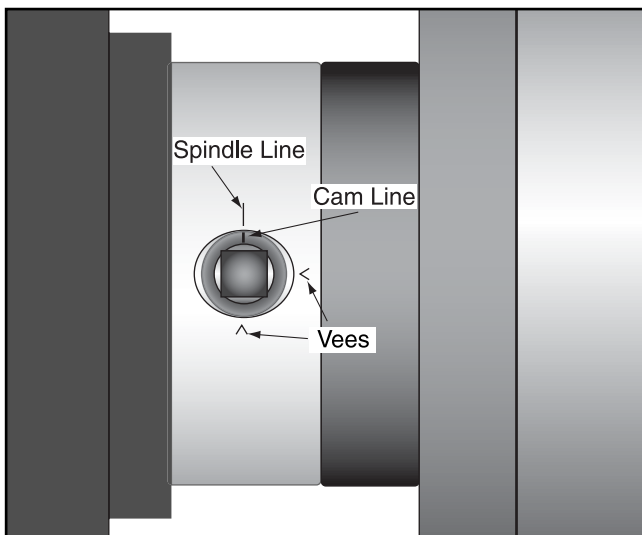

Figure 3. Cam lines aligned to spindle line.
2. Turn a cam, with the chuck key, in the lathe spindle in a counter-clockwise rotation until the line on the cam is aligned with the line going across the spindle housing as in Figure 3.